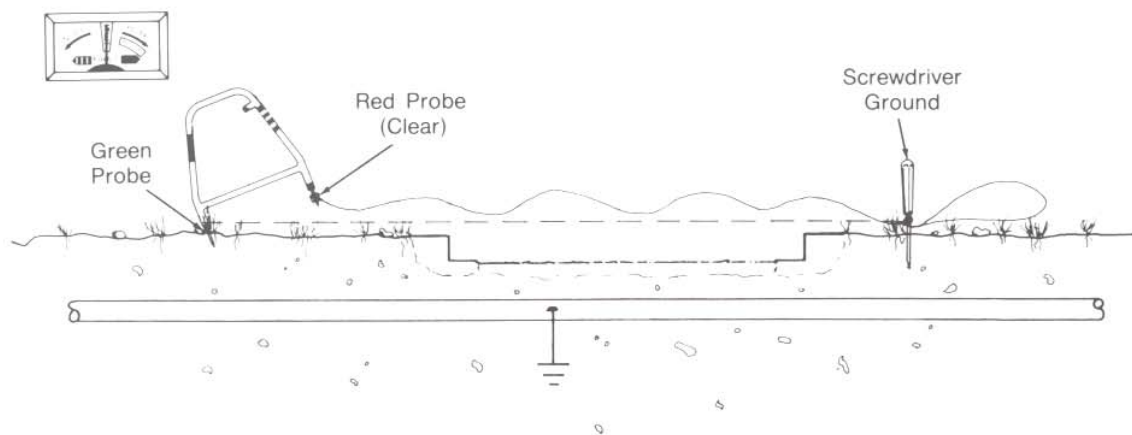

Fig. 21 — Fault Location - Extended Frame Method
1) Insert the green probe in earth on the far side of the fault, and hold the red leg clear. Strip about 10 inches of an insulated conductor such as cross-connect wire and take several metallic turns around the red leg. Pull out enough wire to equal twice the width of the road. Strip another ten inches of insulation from the far end and wrap it around a screwdriver. Ground the screwdriver at a point in line with the cable path across the road from the receiver. The screwdriver acts as an extension of the frame's red probe (see Fig. 21).